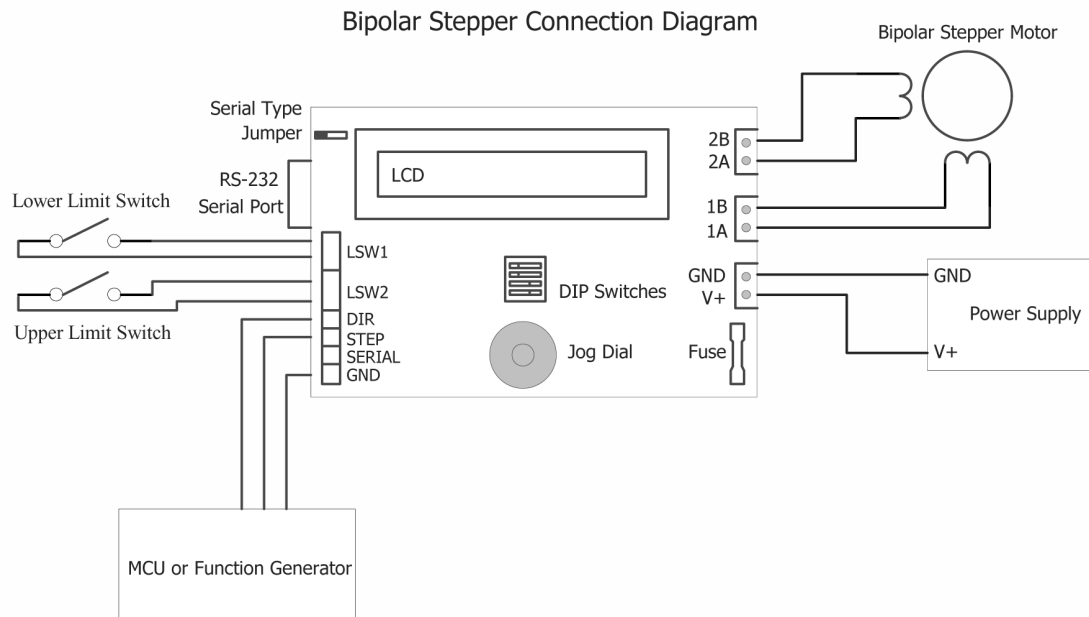

Figure 3 – TTL Input Connections.
- 1) Connect the power supply, motor and controller board as indicated in figure 3. Connect the function generator to the STEP input pin of the AISTEP.